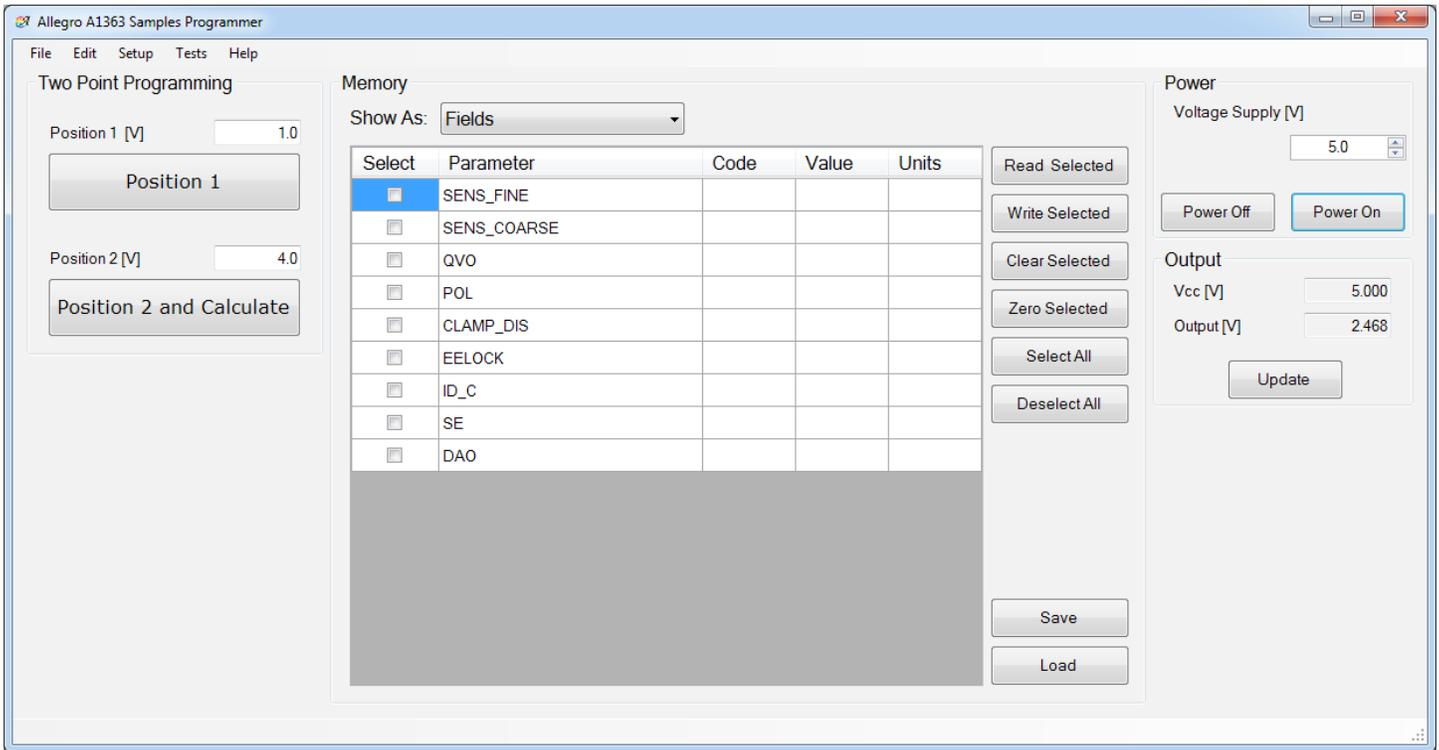

Figure 9: Power-On State
2. On the main window of the Allegro A1363 Samples Programmer, click **Power On**. The Vcc [V] and Output [V] fields should be populated, as shown in Figure 9.